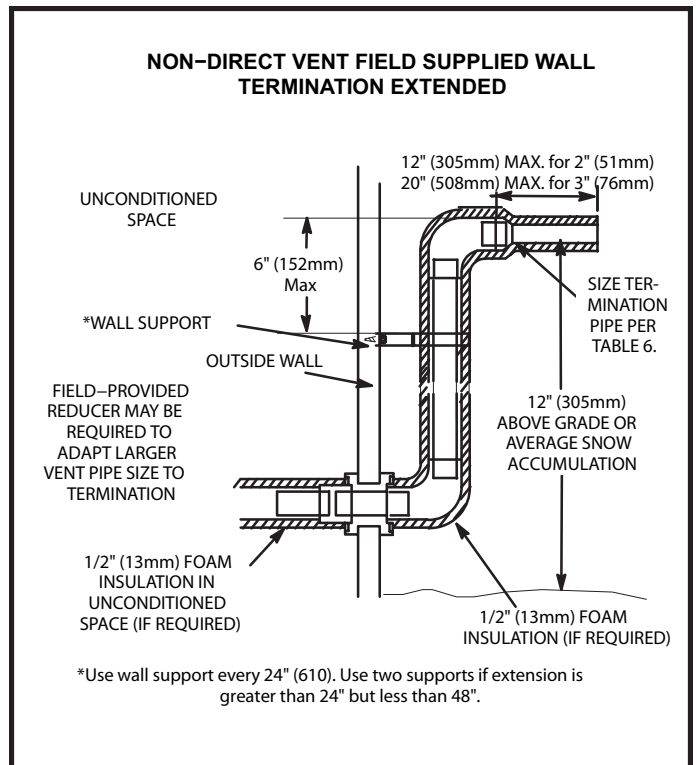

Figure 41
3. If exhaust piping must be run up a sidewall to position above snow accumulation or other obstructions, piping must be supported every 24" (610 mm) as shown in Figure 41. When exhaust piping must be run up an outside wall, any reduction in exhaust pipe size must be done after the final elbow.